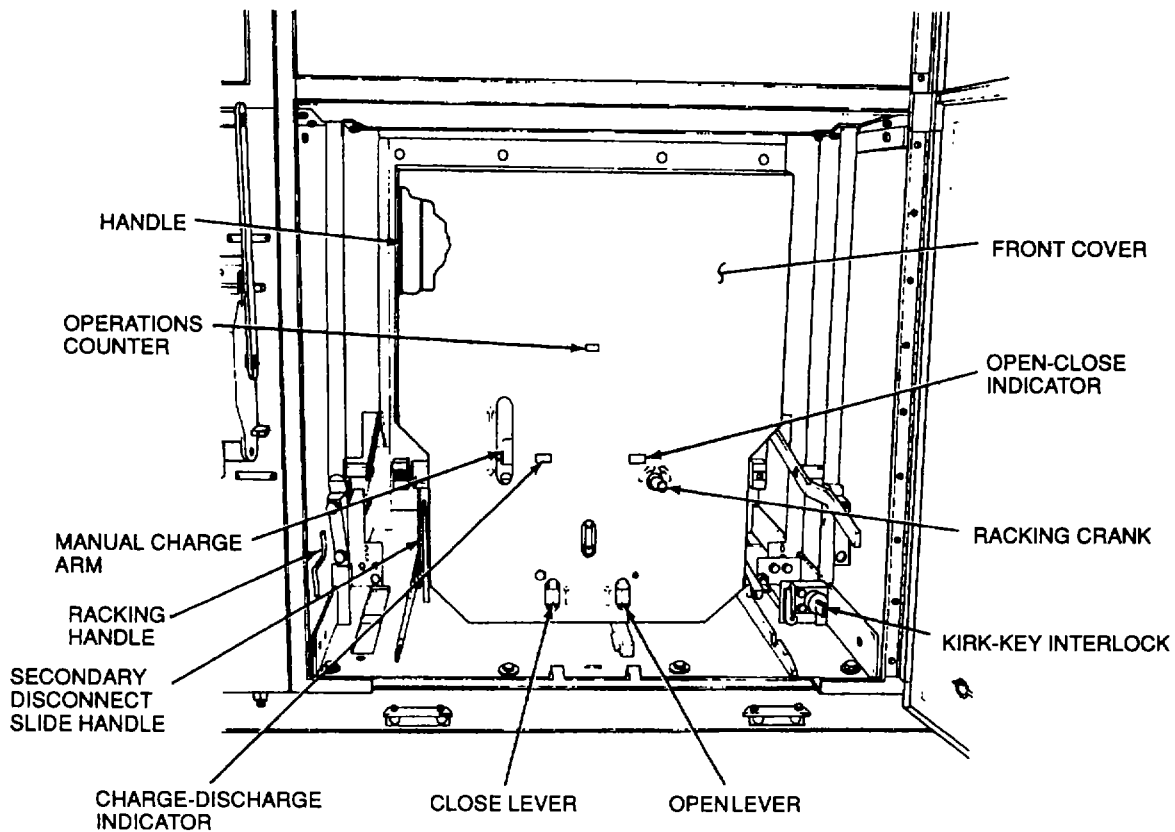
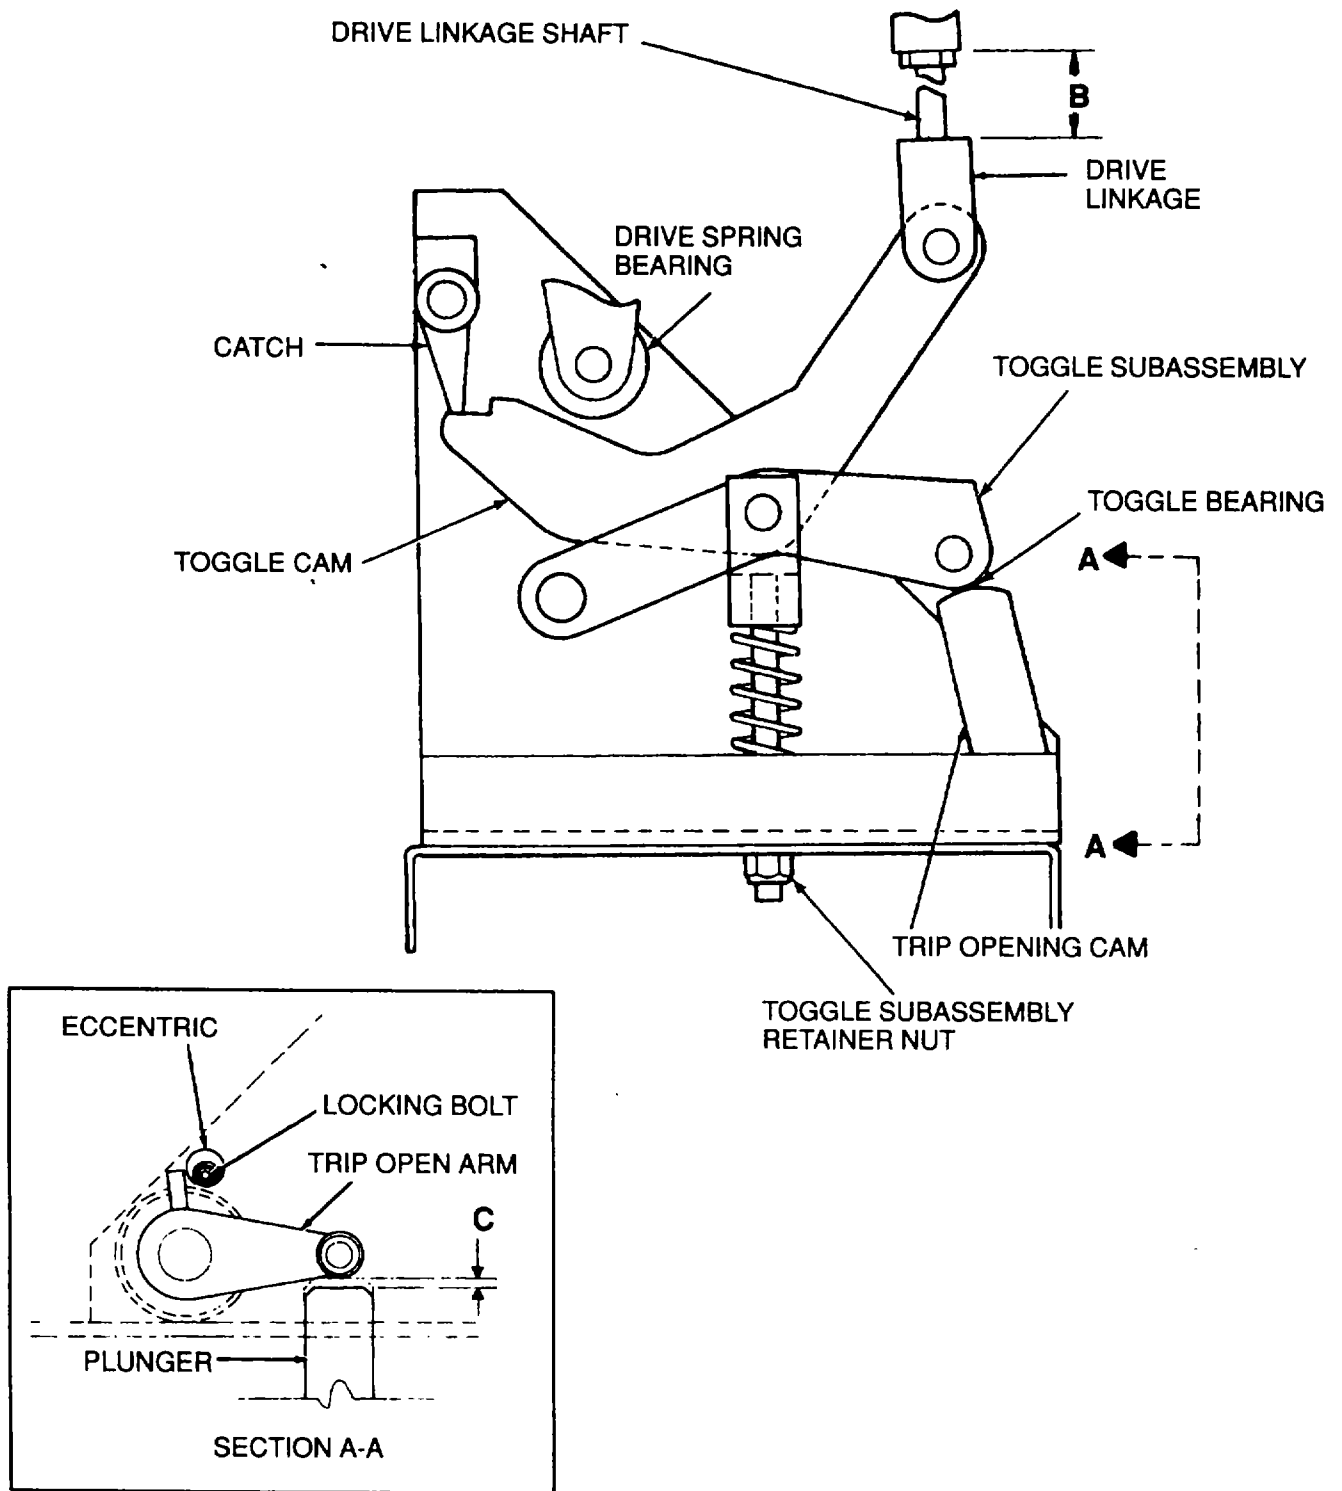

Figure 5-12. Load Circuit Breaker CB101, Front View, Installed
Figure 5-18. Load Circuit Breaker CB101, Adjustment
e. **Indicators.** Two indicators are provided on the operating mechanism. The OPEN-CLOSE indicator (Figure 5-12) designates the position of the vacuum interrupter contacts. The CHARGE-DISCHARGE indicator displays the state (charged or discharged) of the drive springs.
f. Manual Charge Arm Assembly. The drive springs (Figure 5-15) can be manually charged by using the handle end of the racking crank (located on the lower inside door of Cabinet B) to move the manual charge arm (Figure 5-12) up and down until the drive springs are fully charged. The drive springs are fully charged when the CHARGE-DISCHARGE indicator reads charged and the manual charge arm can no longer be raised.
g. Secondary Disconnect Slide Handle. The secondary disconnect slide handle (Figure 5-12) is used to engage and disengage the secondary disconnect slide (193, Figure 5-19) when performing secondary control power testing of load circuit breaker CBI 01. This is accomplished only after load circuit breaker CB1 01 has been partially withdrawn from its cubicle in lower cabinet B, the primary disconnects are disengaged, and the circuit breaker is in a safe condition with no high voltage current present. To operate the secondary disconnect slide handle, lift the handle to a horizontal position. Continue lifting the handle until it clears the catch and then push the handle into the circuit breaker just until the roll pin in the catch engages and locks the handle in position.
(2) Closing Operation. Once the drive springs (Figure 5-15) have been charged, the breaker can be dosed by lifting the dose lever (Figure 5-12) or by energizing the dosing solenoid (Figure 5-16). Either method disengages the trip dosing roller and allows the drive springs to discharge. The discharging drive springs rotate the drive shaft (Figure 5-17) clockwise. The clockwise rotation of the drive shaft gives the drive spring bearing (Figure 5-18) a downward motion. The drive spring bearing engages the toggle cam, thus rotating the front of the toggle cam up and the rear of the toggle cam down the catch. The front of the toggle cam is connected to the main shaft (Figure 5-16) by the drive linkage (Figure 5-18). The upward motion of the front of the toggle cam thus rotates the main shaft counterclockwise and compresses the return springs (Figure 5-16). The drive connecting links (Figure 5-15) transform the rotary motion of the main shaft into a linear motion which doses the vacuum interrupter contacts. The trip opening cam (Figure 5-18) forces the entire toggle assembly to remain latched in this position. When the drive springs discharge, rotating the drive shaft in a counter-clockwise direction, the descending lift arm rotates the drive lever such that the drive lever completes the remaining 360 degrees of rotation to its initial position where it can once again perform a drive spring charging operation. The gear shaft and drive hub rotate with the drive lever. The drive hub rotates out of contact with the drive block since the gear (Figure 5-17) rotates freely on the gear shaft, the gear remains stationary. The rotation of the drive hub is such that the pawl lift slide follows the cammed surface of the drive hub until the pawl lift slide moves back below the gear teeth, permitting the drive pawl to engage the gear. The charging motor limit switch cam (Figure 5-16) rotates with the gear shaft and doses the charging motor limit switch, energizing the charging motor which once again charges the drive springs.
(3) Opening Operation. With the return springs (Figure 5-16) charged, the operating mechanism is now ready to perform an opening operation. If the open lever (Figure 5-12) is lifted or if the opening solenoid (Figure 5-16) is energized, the trip opening cam (Figure 5-18) will be rotated clockwise out from under the toggle bearing. The force of the charged return springs pushing down on the front of the toggle cam will cause the rear of the toggle subassembly to rotate clockwise. When the rear of the toggle cam clears the catch, the return springs will completely discharge, rotating the main shaft (Figure 5-16) and the toggle cam clockwise. The clockwise rotation of the main shaft is transformed to a linear motion by the drive connecting links (Figure 5-15). The drive connecting links are connected to the vacuum interrupters (Figure 5-13), and their motion opens the vacuum interrupter contacts.
5-20. LOAD CIRCUIT BREAKER CB1D1 SERVICE. Ensure that the generator set is shutdown and the unit fully deenergized, load cables are in the park position and surge protectors are grounded. Remove load circuit breaker CB101 in accordance with paragraph 2-17. Use a dean dry both to remove dirt and moisture that may have collected on the vacuum interrupters and all insulating parts. Ensure that all electrical connections are tight and dean. Lubricate the load circuit breaker in accordance with Table 5-1. It should be noted that all bearings used in load circuit breaker are sealed and do not require lubrication. Table 5-1 provides the location of all lubrication points, the type of lubrication required, and the two methods of lubrication. Method I is the periodic lubrication required after 2000 operations (Figure 5-12) or 1 year. Method 11 is the lubrication procedure to be used whenever the load circuit breaker is disassembled for repair. Severe operating conditions, such as use in extremely hot, cold, or dusty environments, may warrant more frequent lubrication intervals. Load circuit breaker CB101 must be manually operated several times after lubrication and observed for proper operation. Manually operate the load circuit breaker as follows: a. Move the manual charge arm assembly (Figure 5-12) up and down using the handle end of the racking crank until the drive springs are fully charged.
a. Trip Open Eccentric Adjustment. With the breaker in the OPEN position and the drive springs charged, the vertical free movement in the opening solenoid plunger (C, Figure 5-18) should be $1/8 \pm 1/16$ inch (3.2 ± 1.6 mm). Loosen the locking bolt and rotate the eccentric to move the trip open arm until the correct distance is obtained.
b. Toggle Bearing Clearance Adjustment With the breaker in the OPEN position and the drive springs charged, the clearance between the toggle bearing (Figure 5-18) and the trip opening cam should be $1/32 +1/32-0$ inch ($0.8 +0.8/-0$ mm). If adjustment is necessary, the toggle subassembly retainer nut should be adjusted clockwise to increase clearance; counter-clockwise to decrease clearance.